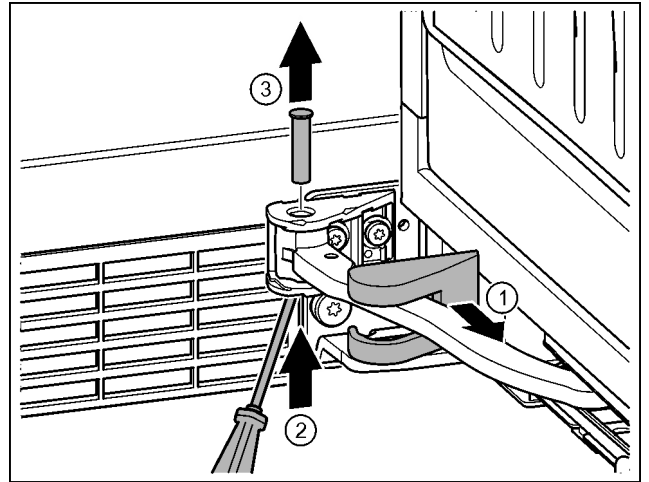

Fig. 19
- ▶ Remove the bearing bracket cover and push it along the hinge. Fig. 19 (1)
- ▶ Lift the bolt with a finger or screwdriver from below. Fig. 19 (2)
- ▶ Insert the screwdriver under the bolt head and remove. Fig. 19 (3)